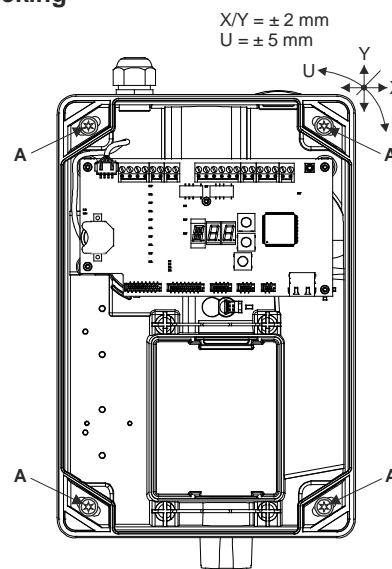

Fig. 1 Open, closing and securing the detector housing
- To actuate the **rotary snap locks**, **press** them **firmly** with the screwdriver towards the housing base and then **turn** through 90°. The position of the lock slit shows the current status (see **Fig. 1**):